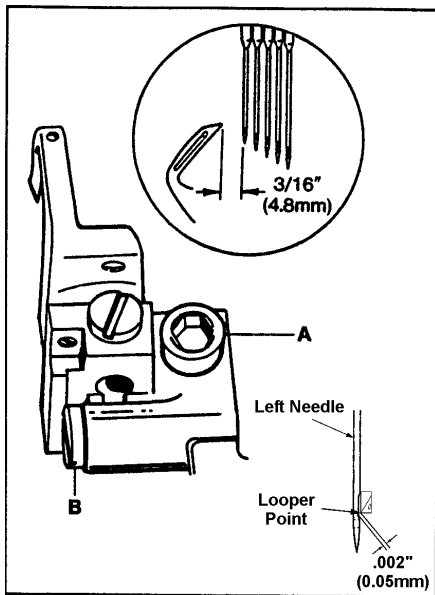

FIG. 15
Turn the handwheel in operating direction until the looper has traveled fully to the left. Loosen screw (A, Fig. 15) and move the looper holder to the right or left until the distance from the point of the looper to the center of the first (left) needle is $\frac{3}{16}$ " (4.8mm) (Looper gauge 21225F3/16 can be used for a more accurate measurement). Clearance between the looper point and the scarf of the needle must not exceed .002" (0.05mm). Turn screw (B) until the .002" (0.05mm) dimension is achieved. Tighten screw (A).